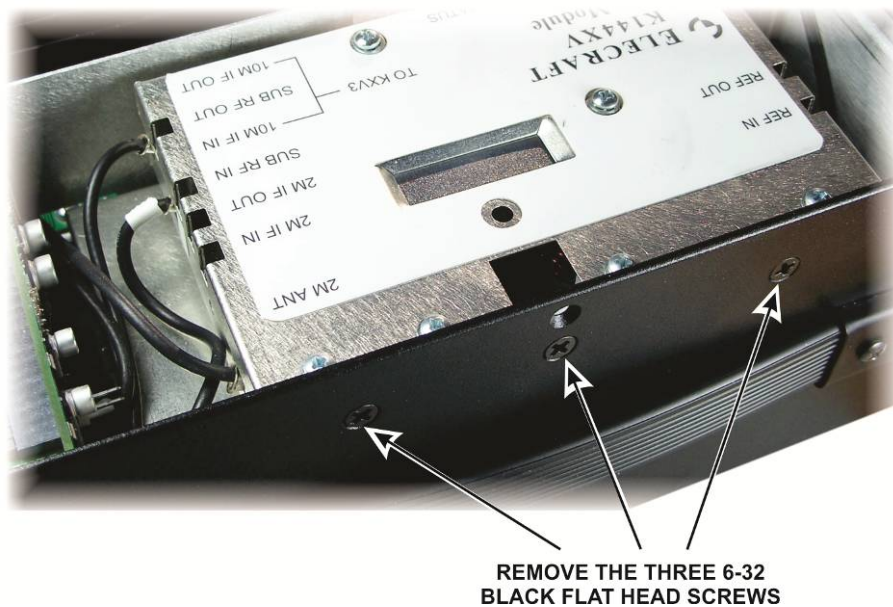

Figure 5. Removing the K144XV Module Mounting Screws.
- Remove the three screws that hold the K144XV module to the side panel (see Figure 5). You do not need to remove the module but only free it so it can be moved back away from the main synthesizer board far enough to gain access to it.